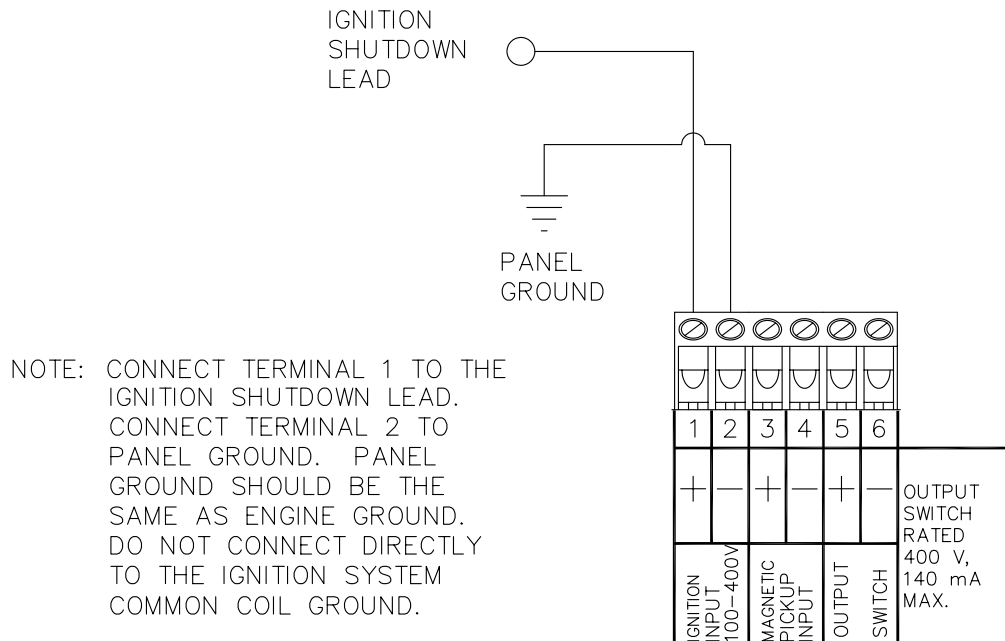

FIG. 5 DTHO-1201/3201 WIRING DIAGRAM
- FIG. 5 WIRING DIAGRAM - POSITIVE GROUND C.D. IGNITION SHUTDOWN LEAD